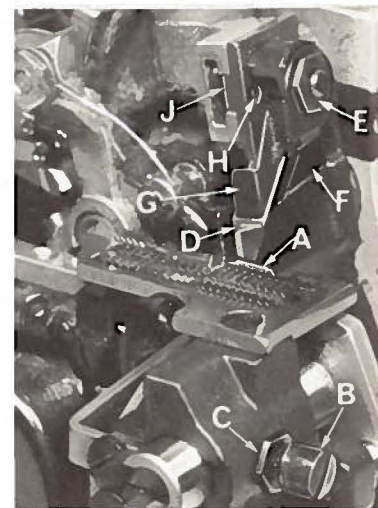

Fig. 13
Replace lower knife holder assembly. Lower knife (A, Fig. 13) should be set with cutting edge flush with throat plate surface. Adjustments are made with hexagonal head screw which holds lower knife. Lower knife is spring pressed against upper knife, so no lateral adjustment is necessary when width of trim is changed.
Replace upper knife assembly. Clamp upper knife (D, Fig. 13) in position, setting nut (E) to hold clamp (F) in its most clockwise position against upper knife. At bottom of its stroke, front cutting edge of upper knife should extend not less than $1/64$ inch below cutting edge of lower knife. The chain guard (G) should be set down against the upper knife and slightly back from the cutting edge. See Page 19 for Setting Knife on 39500 JF.